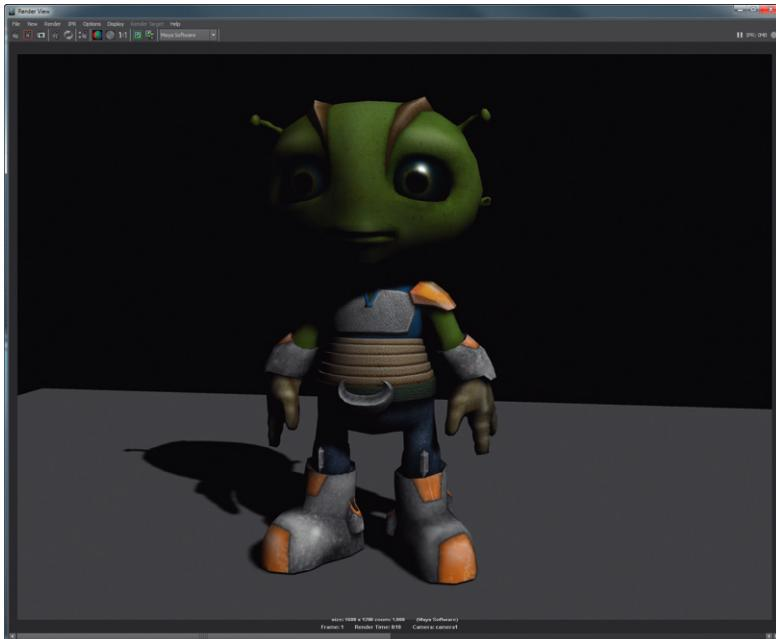

FIG 7.46 Render with one light source.
Step 4: Adjust the Directional Light's attribute. Activate Depth Map Shadows and change the Resolution to 2048. Change the Filter to 4. Rename the Directional Light to `Key_Light`. Take a render (Fig. 7.46).
Figure 7.46 shows a strange render. There's light alright, but an entire half of his face and body just disappears in black shadows. There are probably situations in which this would be what was wanted, but not for this lovable guy. We can now start filling in with fill lights. We'll start with the warm side.